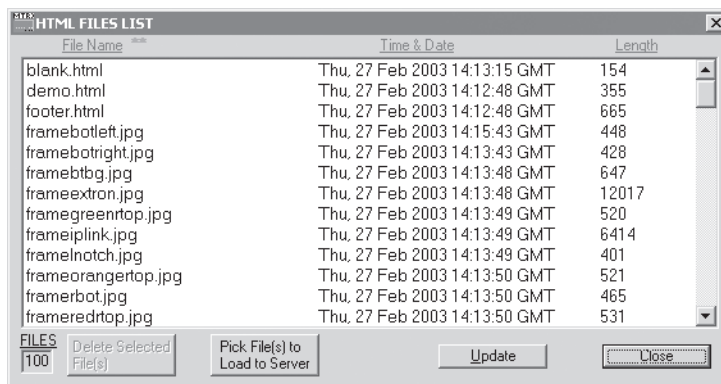

Figure 5-13 — HTML Files List window
You can create customized HTML pages for the switcher to display. The HTML Files List window (figure 5-13) provides a way to view the contents of the switcher's file system and upload custom HTML pages to the switcher.
- NOTE** The files listed in figure 5-13 are shown for example only and may not be present on your switcher.